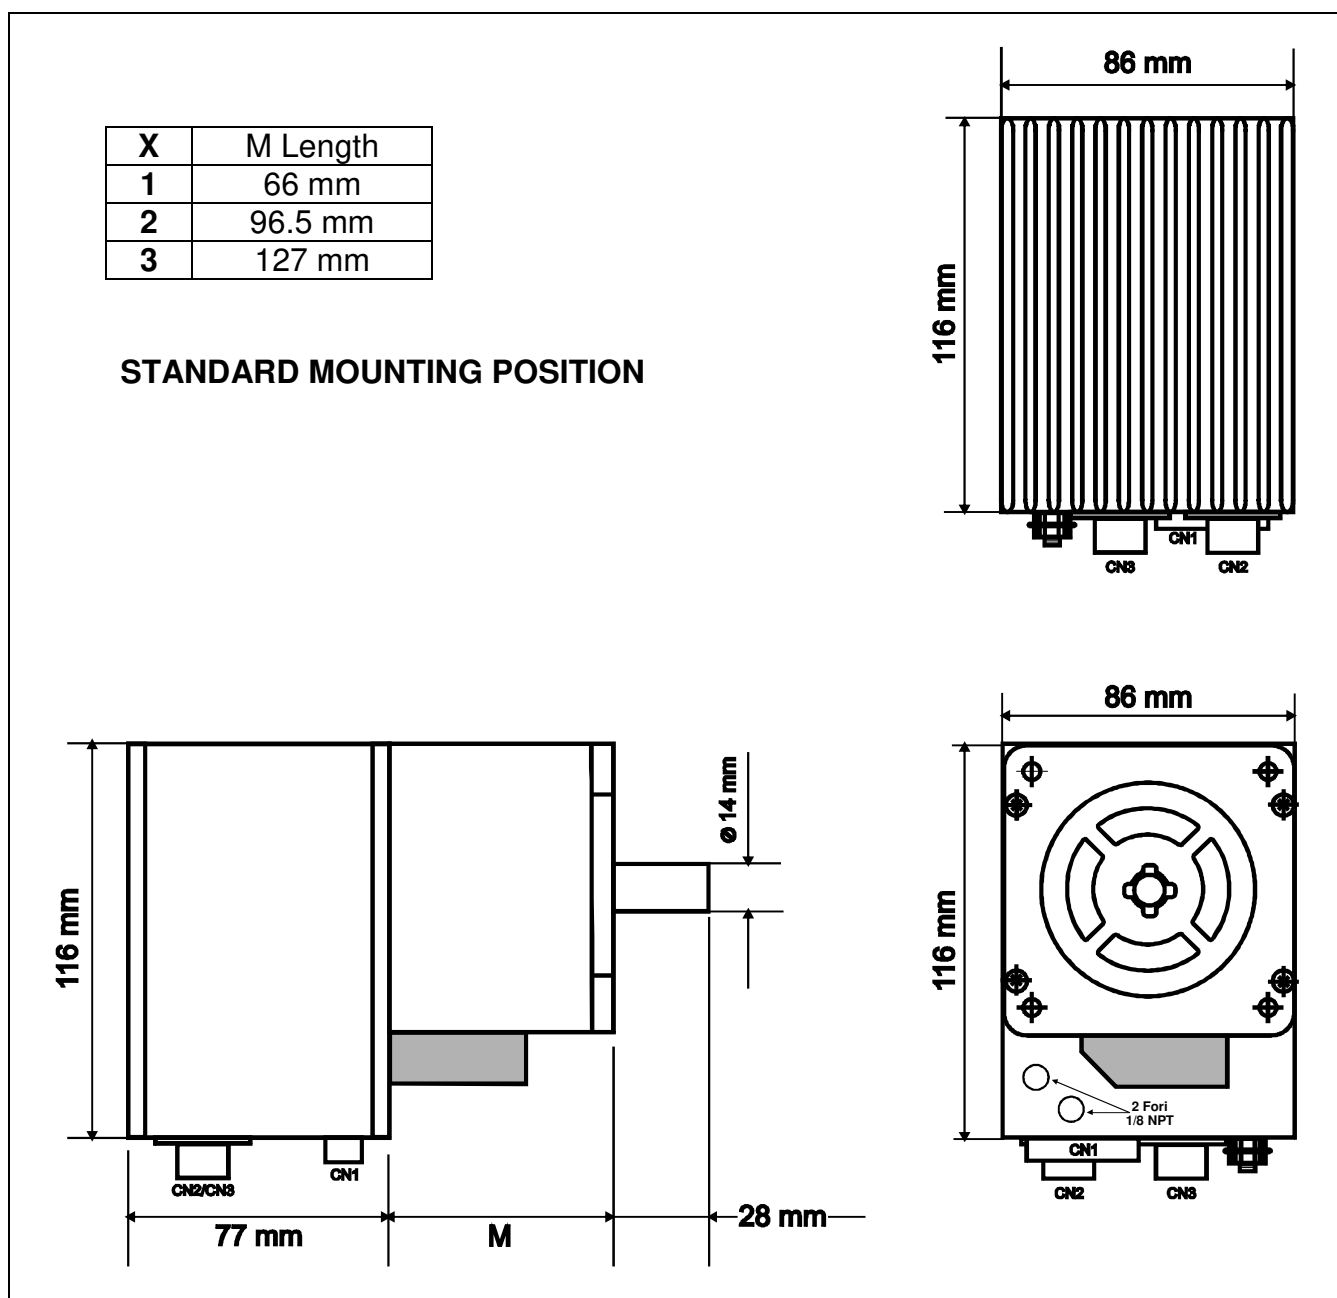

Figure 1 – Dimensions in mm.
- 2.2 - HI-MOD ET and HI-MOD ETS series drives must be mounted as in Fig. 1. Do not take out or insert connectors when the drive is switched on.